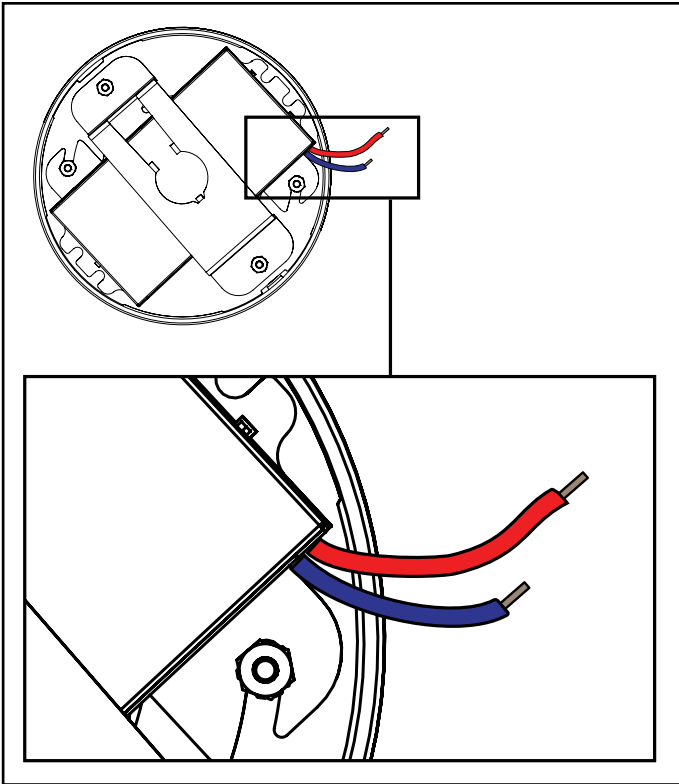

Figure 7
8. Route the Low voltage wire routing (LED wires) from the **Driver Plate (B)** (Figure 7)